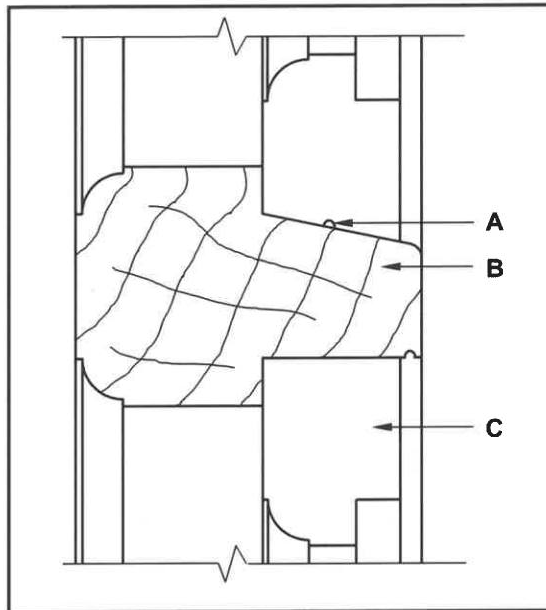

FIGURE 3.1
- 3.1 FIGURE 3.1 below shows an incomplete vertical sectional view through part of a casement with a fanlight.